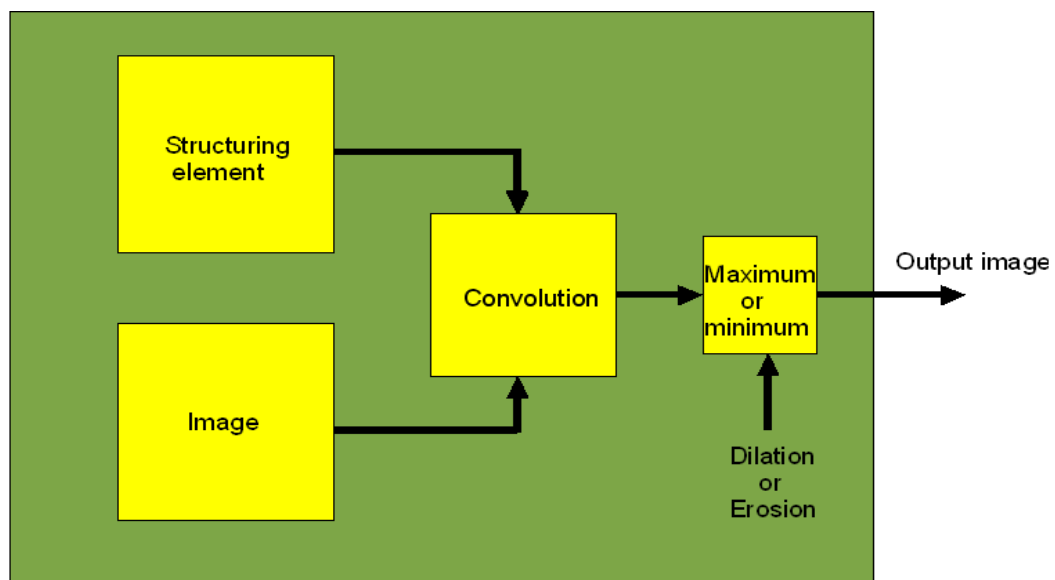

Figure 1: Dilation/Erosion Block Diagram
- Figure.1 shows the block diagram of the Dilation/Erosion IP core.